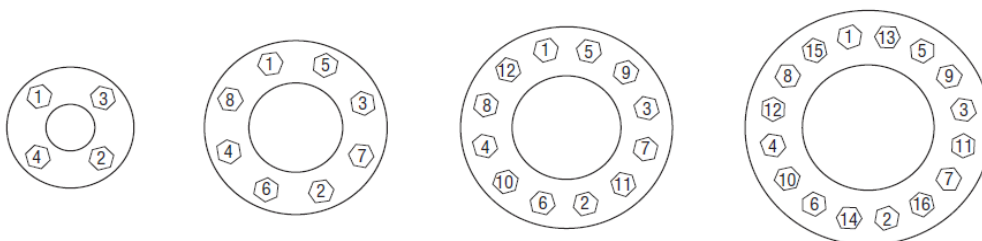

Figure 1
6. In valve installation, please use wrench and follow diagonal sequence (Figure 1) to lock screws in order to prevent flange from deformation.
see (Figure 1 、 2)